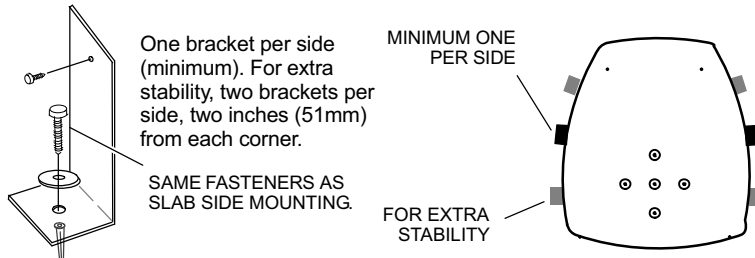

Figure 5. Placement, Slab Mounting and Stabilizing Unit
- When possible, do not install the unit directly outside a window. Glass has a very high level of sound transmission. For proper placement of unit in relation to a window see the provided illustration in figure 5, detail A.
higher ground will not collect around the unit. The slab should have a slope tolerance as described in figure 5, detail B.
NOTE — If necessary for stability, anchor unit to slab as described in figure 5, detail D.
Units are outfitted with elongated support feet as illustrated in figure 5, detail C.
Install the unit a minimum of 6 inches (152 mm) above the roof surface to avoid ice build-up around the unit. Locate the unit above a load bearing wall or area of the roof that can adequately support the unit. Consult local codes for rooftop applications. See figure 5, detail F for other roof top mounting considerations.